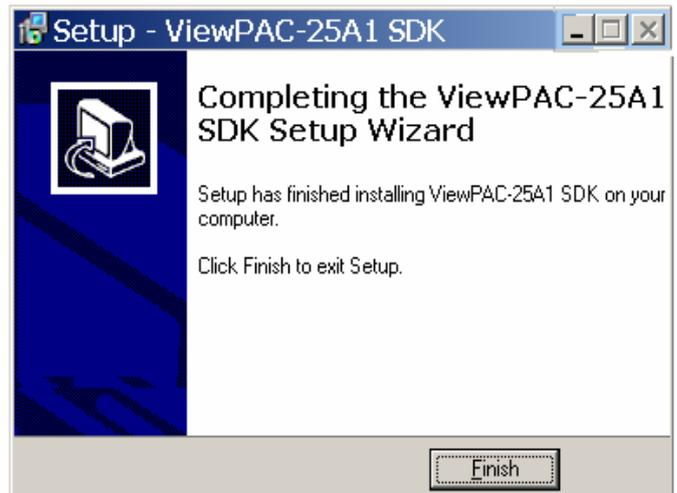

Fig. 2-4
- After successfully installing the software, please click on the “Finish” button to finish the development toolkit installation, refer to Fig. 2-4.